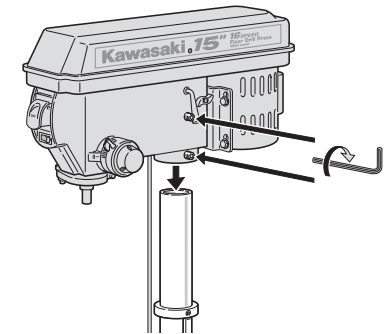

FIGURE 7. INSTALLING THE HEAD ASSEMBLY
4. Align the head assembly with the worktable and base. See Figure 7.
5. Locate the (2) two 10 mm X 12mm set screws in the loose parts bag.